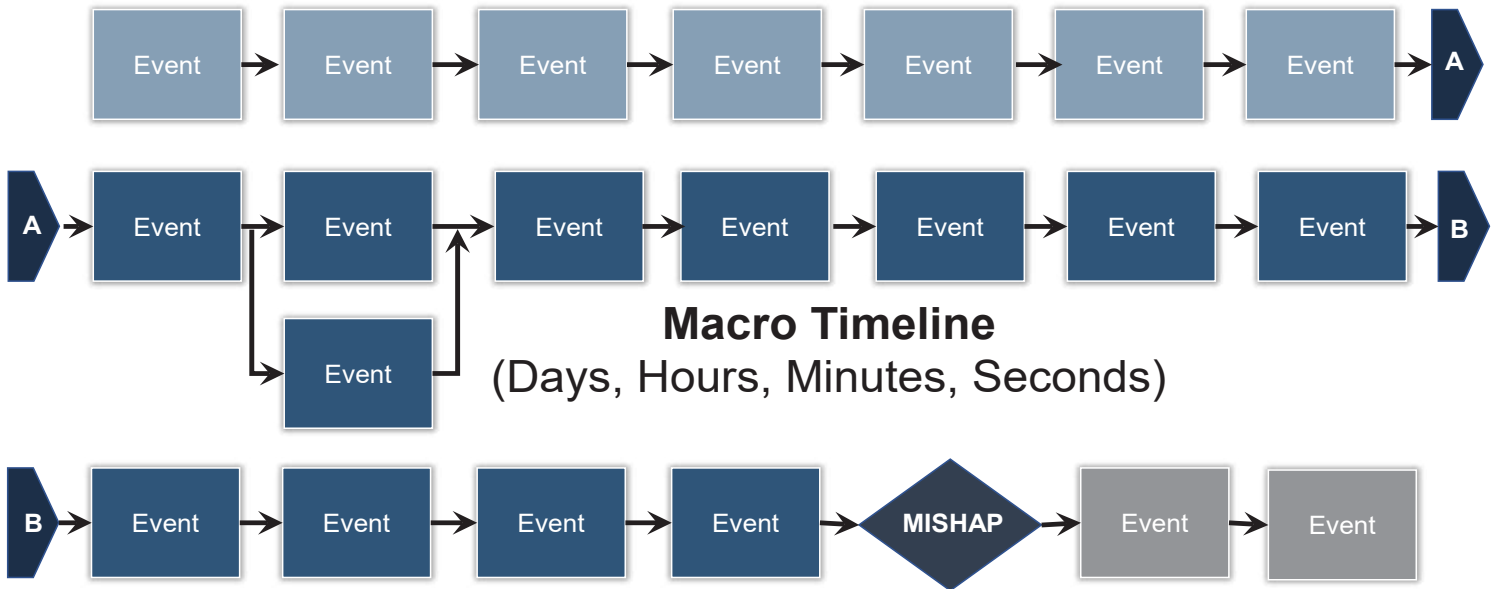

Figure 3-7 (Sequence of events)
d. Causal Factors Mapping (CFaM). CFaM is the PRIMARY root cause analysis tool used by investigators of CMC (SD) and NAVSAFECOM. The CFaM (see *Figure 3-7*) is easy to develop and provides a clear depiction of the data. Investigators use either “post-it” notes, MS Excel or a mapping software to provide a graphical depiction of the mishap’s sequence of events (what) and the layers of conditions (why) that allowed significant events to occur. Keeping the map up-to-date helps ensure the investigation proceeds smoothly and investigators have a clear representation of the cause and effect relationships. Key benefits of the CFaM:
1) CFaM Process STEP 1 - Establish a Sequence of Events. List the chronological sequence of events (timeline) leading up to and through the mishap. The chain of events may have begun days, weeks, months or years before the mishap even occurred. (See *Figures 3-7* and *3-8*).